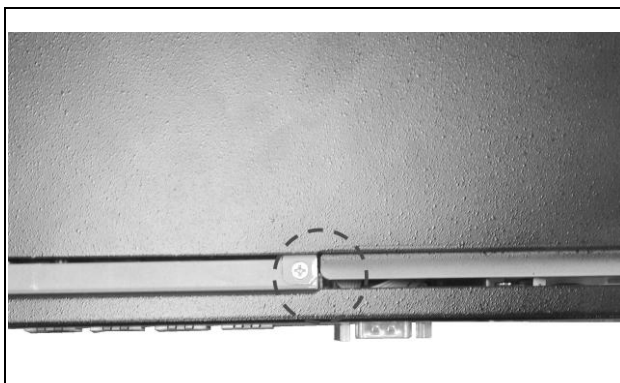

Fig. 2-36
1. Lay the top cover properly above the chassis (**Fig.2-36**)